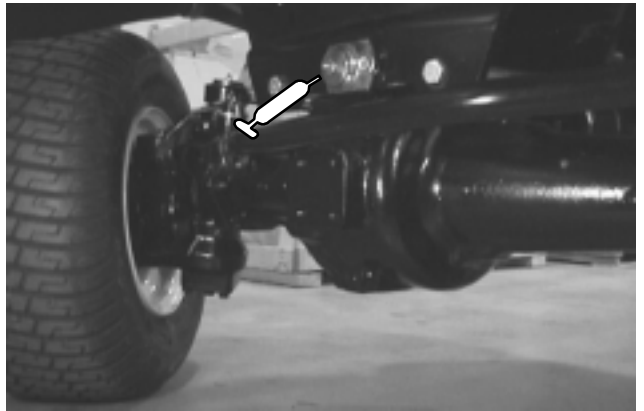
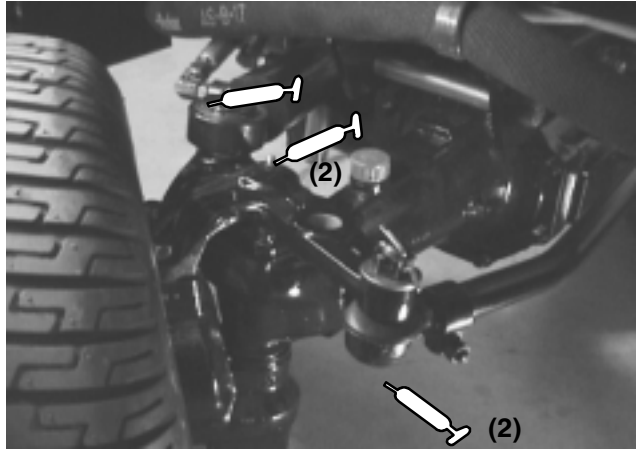

Figure 30
Figure 31
4 wheel drive machines only – center pivot (1) (Fig. 30); tie rod assembly (2), axle knuckles (2) cylinder ends (2) (Fig. 31).